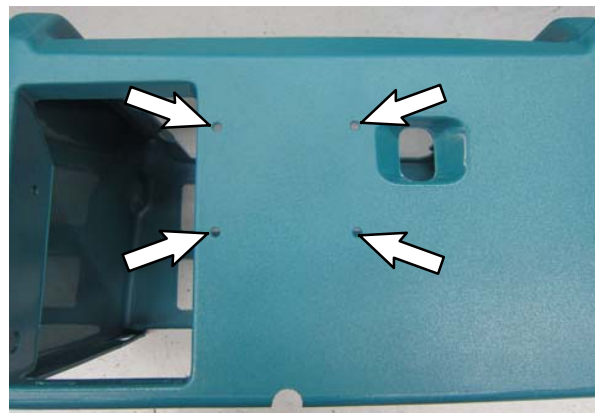

Fig. 5
2. Use the telemetry control box (1) as a template to drill four 8 mm holes into the battery box cover as shown. (Fig. 5)